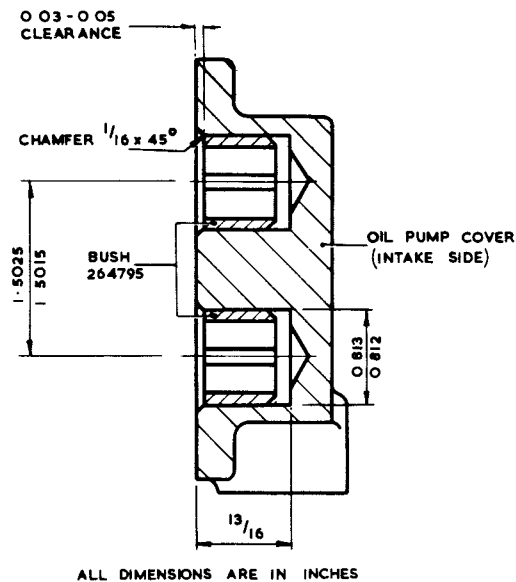

Fig. 26 Oil pump - machining for bushes
97. On early oil pumps only the cover side of the driving gearwheel was bushed. On later pumps both gearwheels are bushed (7) in cover (3) and body (8). If wear on early pumps warrants it the cover and body can be machined to receive new bushes Part no. 264795. Fig.26 gives machining details for the cover; the body dimensions are identical.